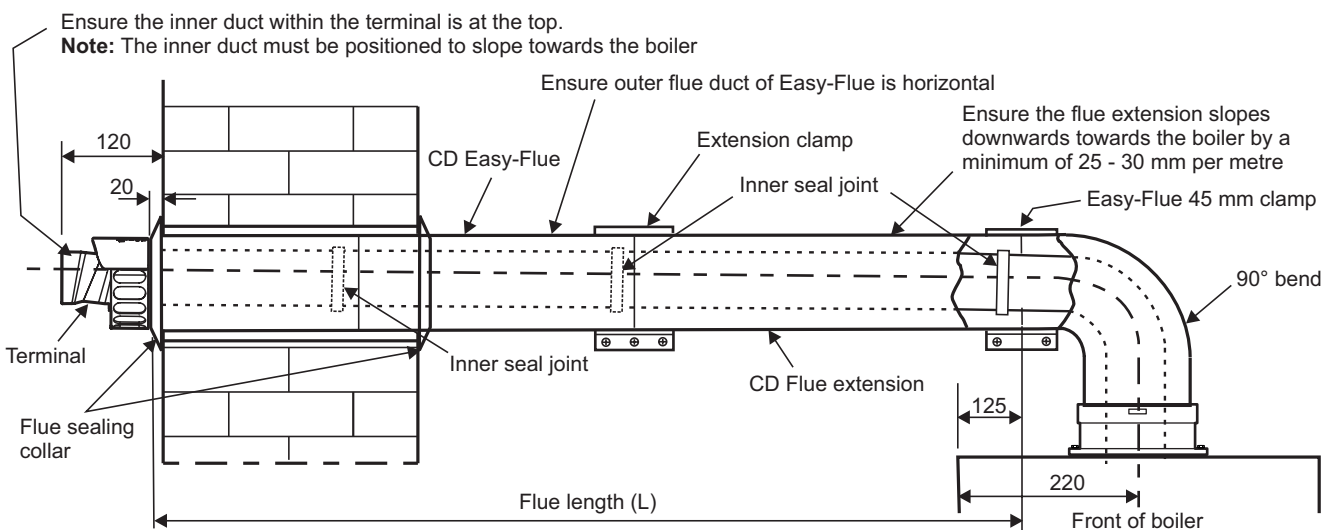

Fig. 5.13 - Side flue
5.9 EXTENDING THE FLUE - Fig. 5.13
Note: Check the flue terminal protrudes 120 mm out of the wall and that the inner duct of the terminal is positioned correctly, i.e. the inner duct within the terminal is at the top. See Fig. 5.13.